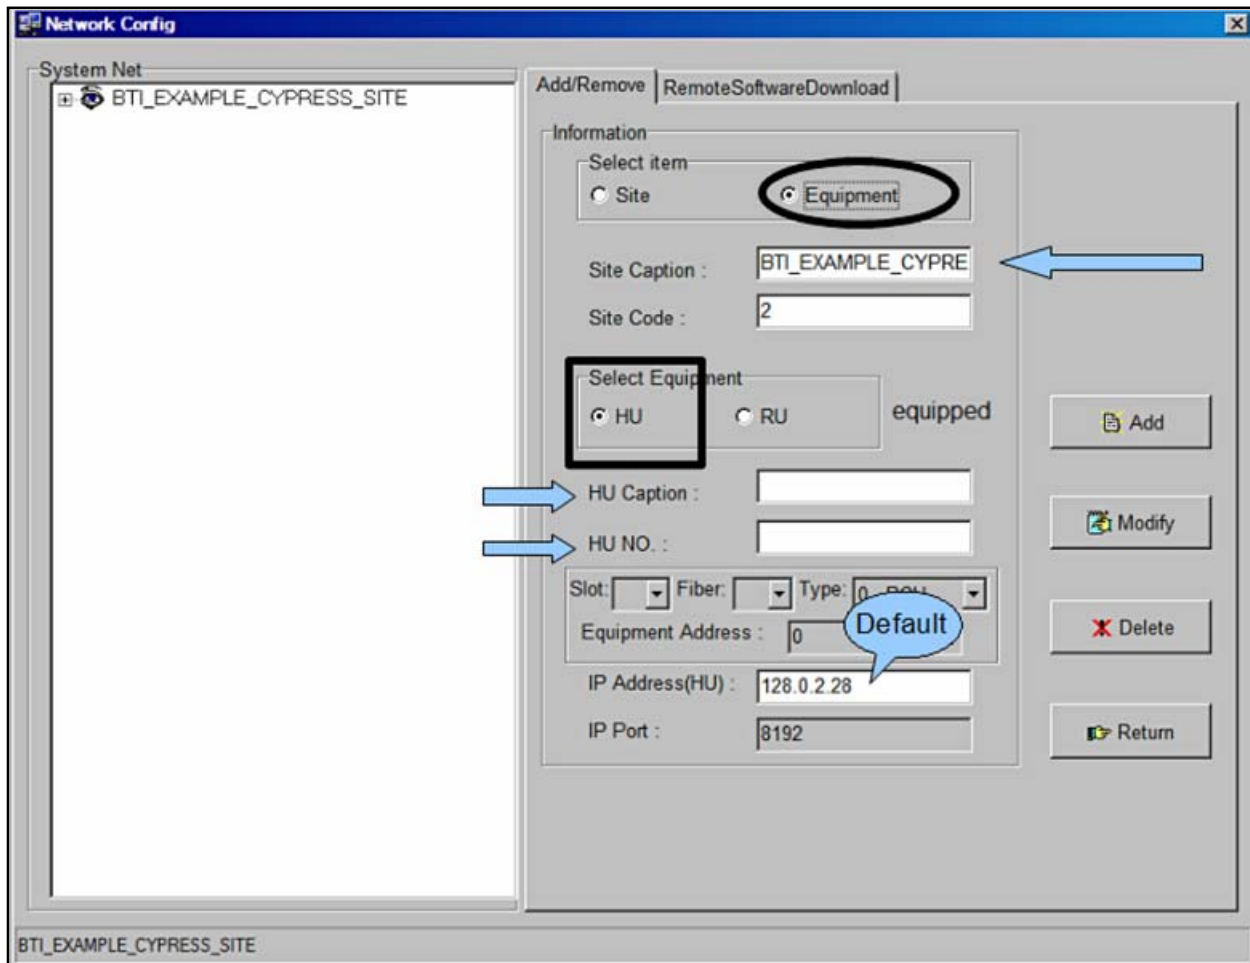

Figure 5-9. Adding a Host Unit
3. Add the customer designated Host Unit Caption and Host Unit No. as shown in **Figure 5-9**.